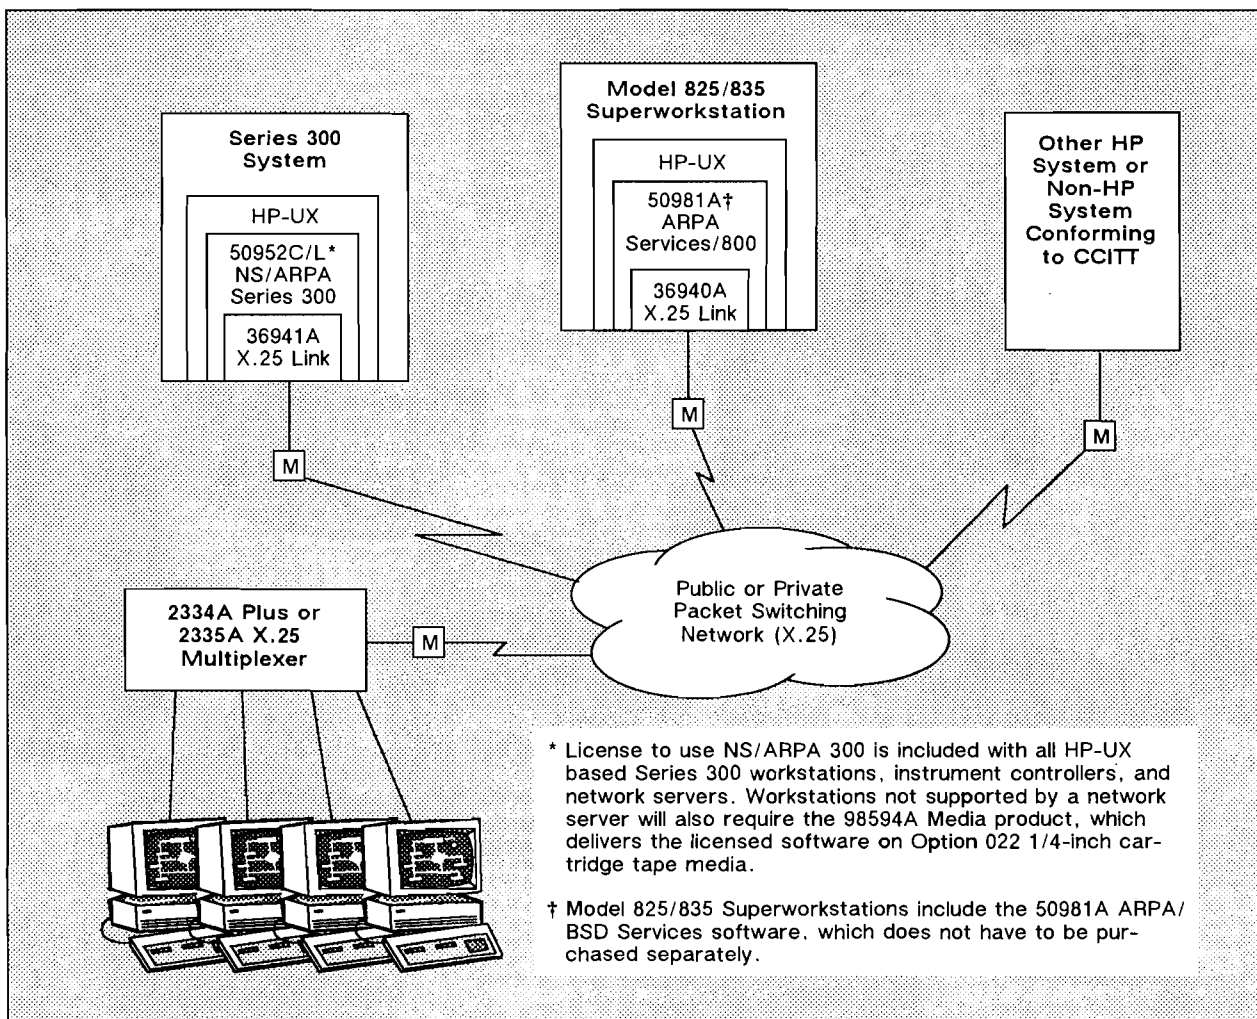

Figure 101. X.25 Communications for Series 300 Systems and Model 825/835 Superworkstations
X.25 Communication for Series 300 systems and Model 825/835 Superworkstations is illustrated in Figure 101, below. Via the packet-switching network and the ARPA software, Series 300 systems or Model 825/835 Superworkstations can communicate with other systems using File Transfer Protocol (FTP), Telenet, and Simple Mail Transfer Protocol (SMTP). Communication to remote terminals connected via an HP 2334A Plus or 2335A X.25 Multiplexer is also supported.
Series 300 systems and Model 825/835 Superworkstations with X.25 Link can be configured as a DTE (Data Terminal Equipment) to transmit via a public or private X.25 network, as shown in Figure 101. Data rates up to 19.2 Kbps (Series 300) or 64 Kbps (Model 825/835 Superworkstations) are achievable. The X.25 Link can also be configured as a DCE (Data Circuit terminating Equipment) to run over direct, hard-wired lines. (A modem or modem eliminator is then required bet-